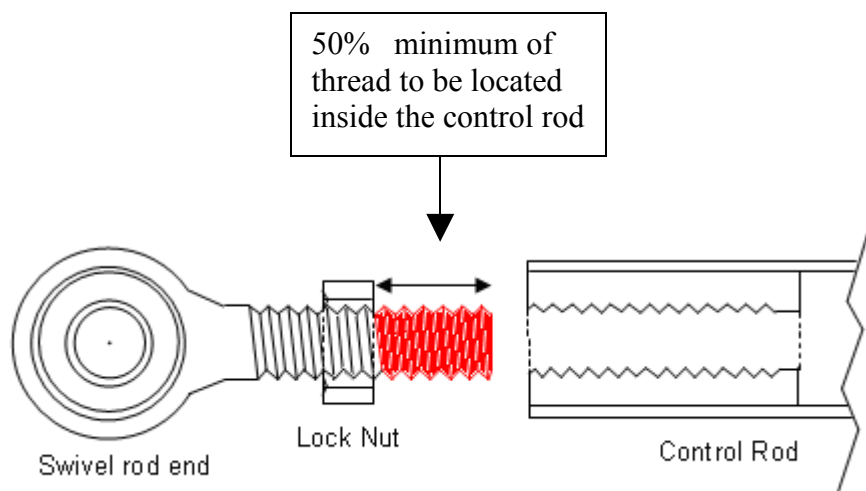

Figure 1.
1. Where the rod ends associated with the control/push rods within the control system utilise right hand threads, the lengths of the control/push rods must be adjusted such that when the rod has been adjusted to provide the correct amount of head movement, a **minimum** of 50% of the total available thread (disregarding the thread used by the locknut) must be inserted into the threaded portion of the control/push rod (see Figure 1 below); **OR**